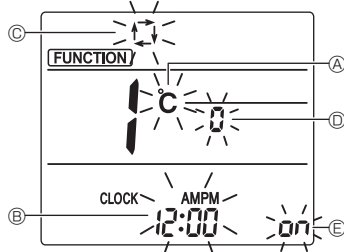

Fig. 5-11
The Screen display setting screen will be displayed. (Fig. 5-11)
5.12.2. Changing the temperature unit (Fig. 5-11 Ⓐ)
- Press the **TEMP** button ⑤.
- Each time the **TEMP** button ⑤ is pressed, the setting switches between **°C** and **°F**.
5.12.3. Changing the time display (Fig. 5-11 Ⓑ)
- Press the **TIME** button ⑥.
- Each time the **TIME** button ⑥ is pressed, the setting switches between **12:00^{AMPM}** and **24:00^{AMPM}**.
5.12.4. Changing the AUTO mode (Fig. 5-11 Ⓒ)
- Press the **MODE** button ⑦.
- Each time the **MODE** button ⑦ is pressed, the setting switches between **Ⓜ** and **Ⓜ**.
5.12.5. Changing the pair No. (Fig. 5-11 Ⓓ)
- Press the **UP** button ④.
- Each time the **UP** button ④ is pressed, the pair No. 0-3 changes.